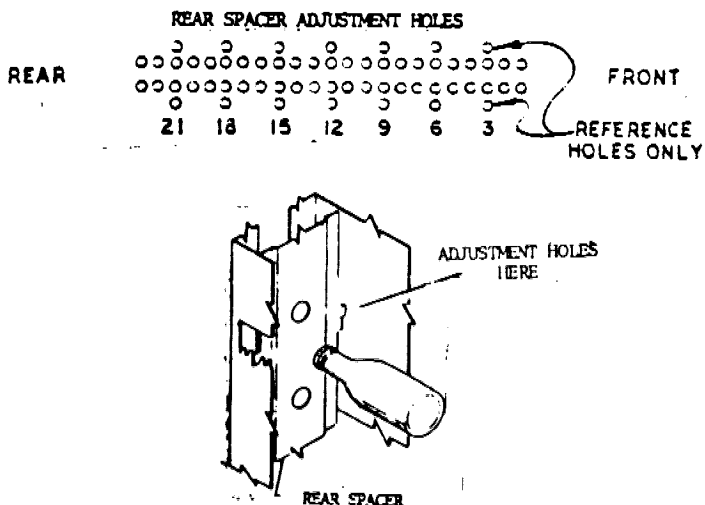

Fig. 1
1. Locate the top of the rear spacer in hole no. 23. Locate the bottom, of the rear spacer as far to the rear as it will go - beyond the holes. Fig. 1.
1. Locate the rear spacer in hole no. 8. Fig. 1.